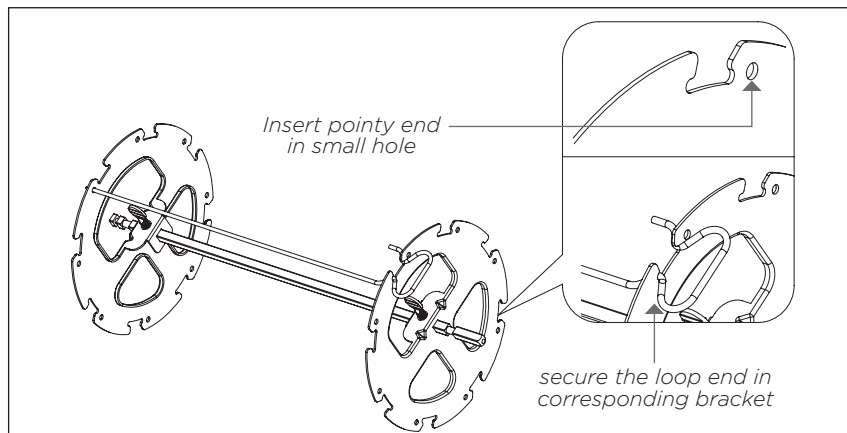

Fig. 3
- 3 After securing two Side Wheels on both ends of the Rotisserie Rod, insert the pointy end into the small hole of one Side Wheel while securing the loop end in the corresponding bracket of the other Side Wheel. See fig. 3.